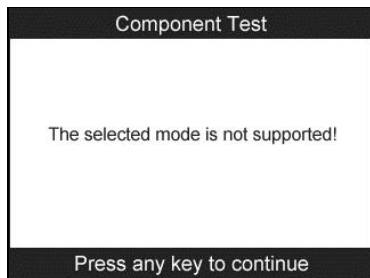

Figure 6.26
- Some vehicles do not allow scan tools to control vehicle systems or components. If the vehicle under test does not support the EVAP Leak Test, an advisory message is displayed on the screen (Figure 6.26).